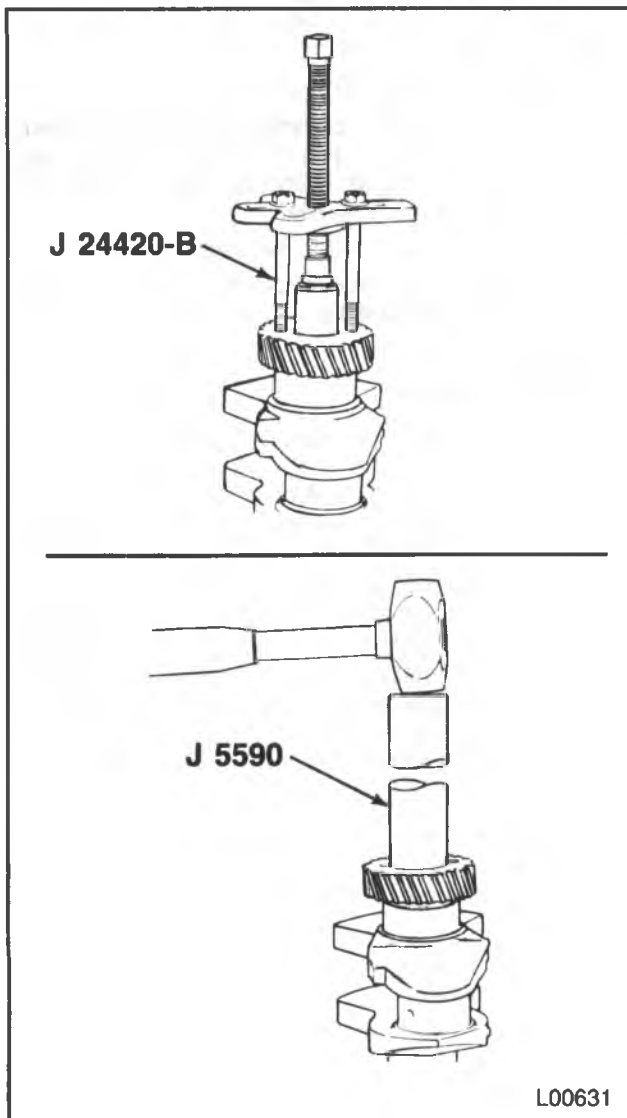

Figure 38 — Replacing The Crankshaft Gear
Remove or Disconnect (Figure 38)
2. Crankshaft gear using J 24220-A (figure 38).
1. Crankshaft gear using J 5590 (figure 38). Make sure the timing mark faces out.